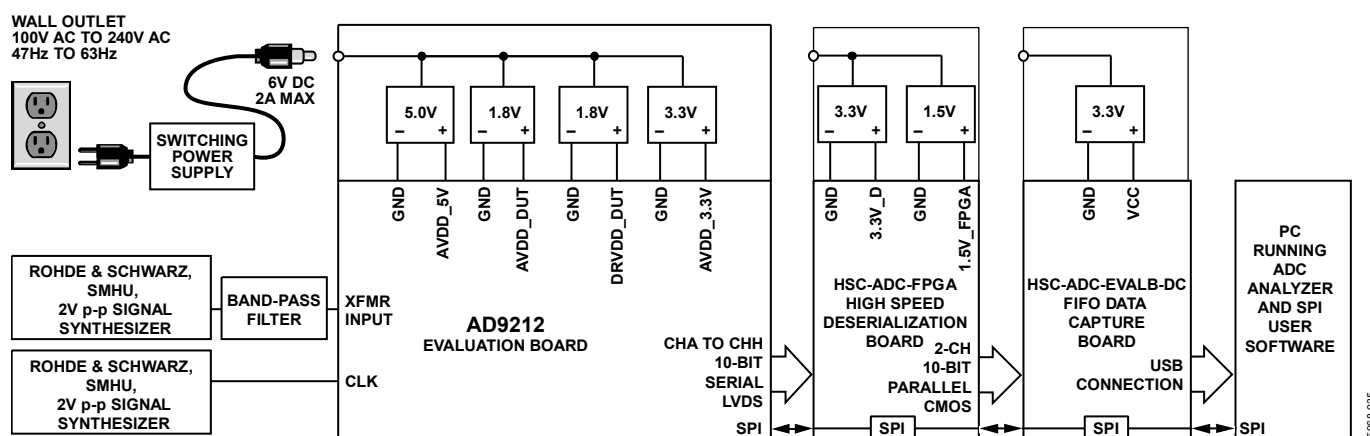
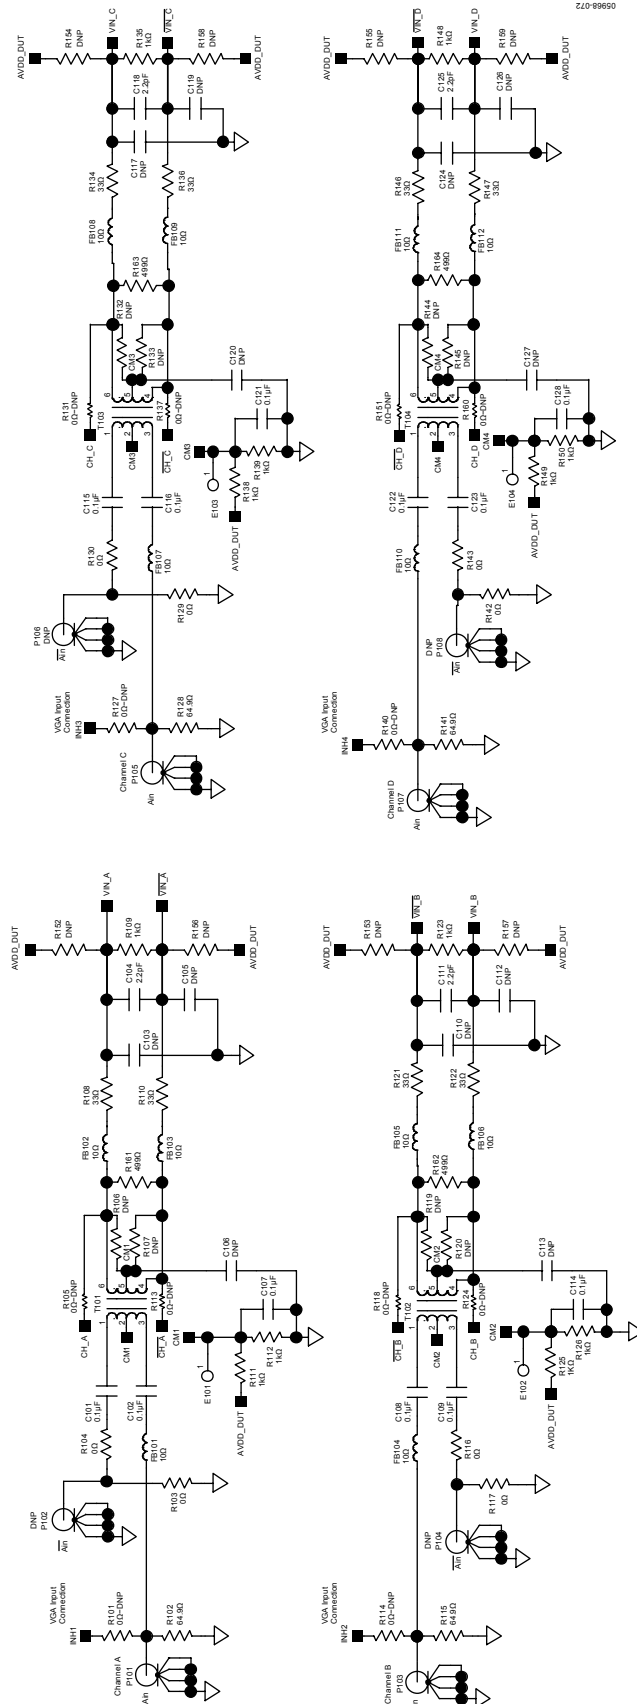

Figure 74. Evaluation Board Connection
Figure 76. Evaluation Board Schematic, DUT Analog Inputs
The AD9212 evaluation board provides all of the support circuitry required to operate the ADC in its various modes and configurations. The converter can be driven differentially through a transformer (default) or through the AD8334 driver. The ADC can also be driven in a single-ended fashion. Separate power pins are provided to isolate the DUT from the AD8334 drive circuitry. Each input configuration can be selected by proper connection of various jumpers (see Figure 76 to Figure 80). Figure 74 shows the typical bench characterization setup used to evaluate the ac performance of the AD9212. It is critical that the signal sources used for the analog input and clock have very low phase noise (<1 ps rms jitter) to realize the optimum performance of the converter. Proper filtering of the analog input signal to remove harmonics and lower the integrated or broadband noise at the input is also necessary to achieve the specified noise performance.
See Figure 76 to Figure 86 for the complete schematics and layout diagrams that demonstrate the routing and grounding techniques that should be applied at the system level.
- **D+, D-:** If an alternative data capture method to the setup described in Figure 76 is used, optional receiver terminations, R318, R320 to R328, can be installed next to the high speed backplane connector.